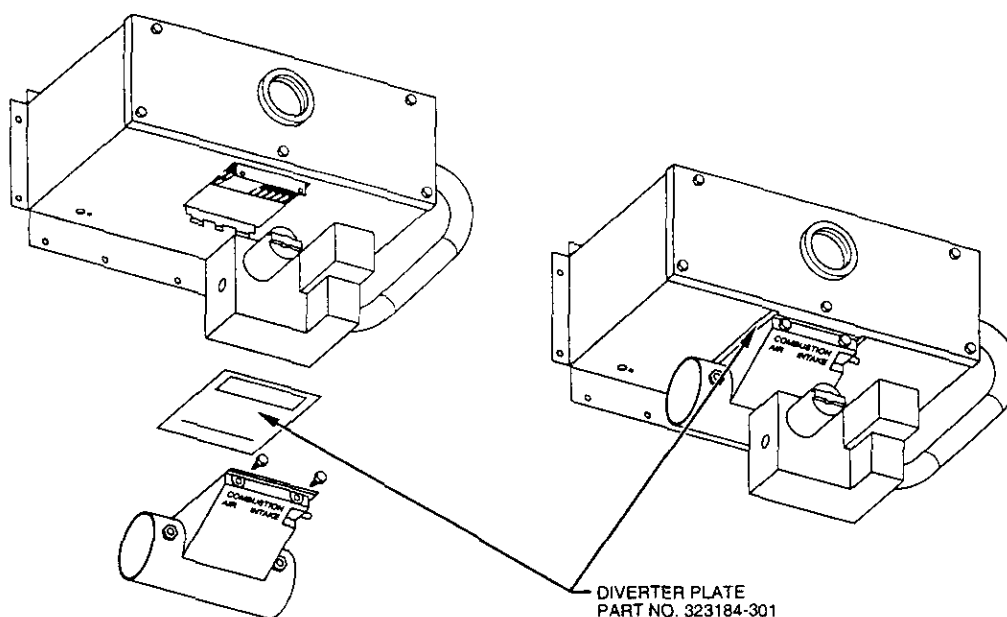

Fig. 21 – Installing Diverter Plate
- g. Install diverter plate Part No. 323184-301 provided in kit. (See Fig. 21)